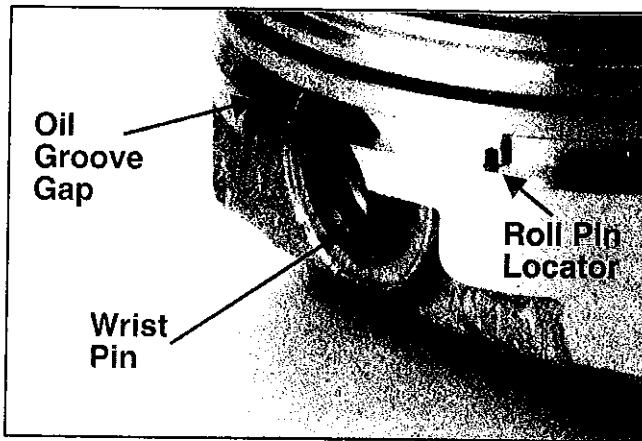

Figure 1
**KB** long rod and stroker pistons often have very short compression heights. The resulting short distance between the piston head and wrist pin crowds the rings so that the oil ring must be positioned over the **wrist pin hole**. The bottom oil ring rail must span a 3/4" gap and the ring end must not be allowed to migrate into the oil groove gap (*fig. 1*).